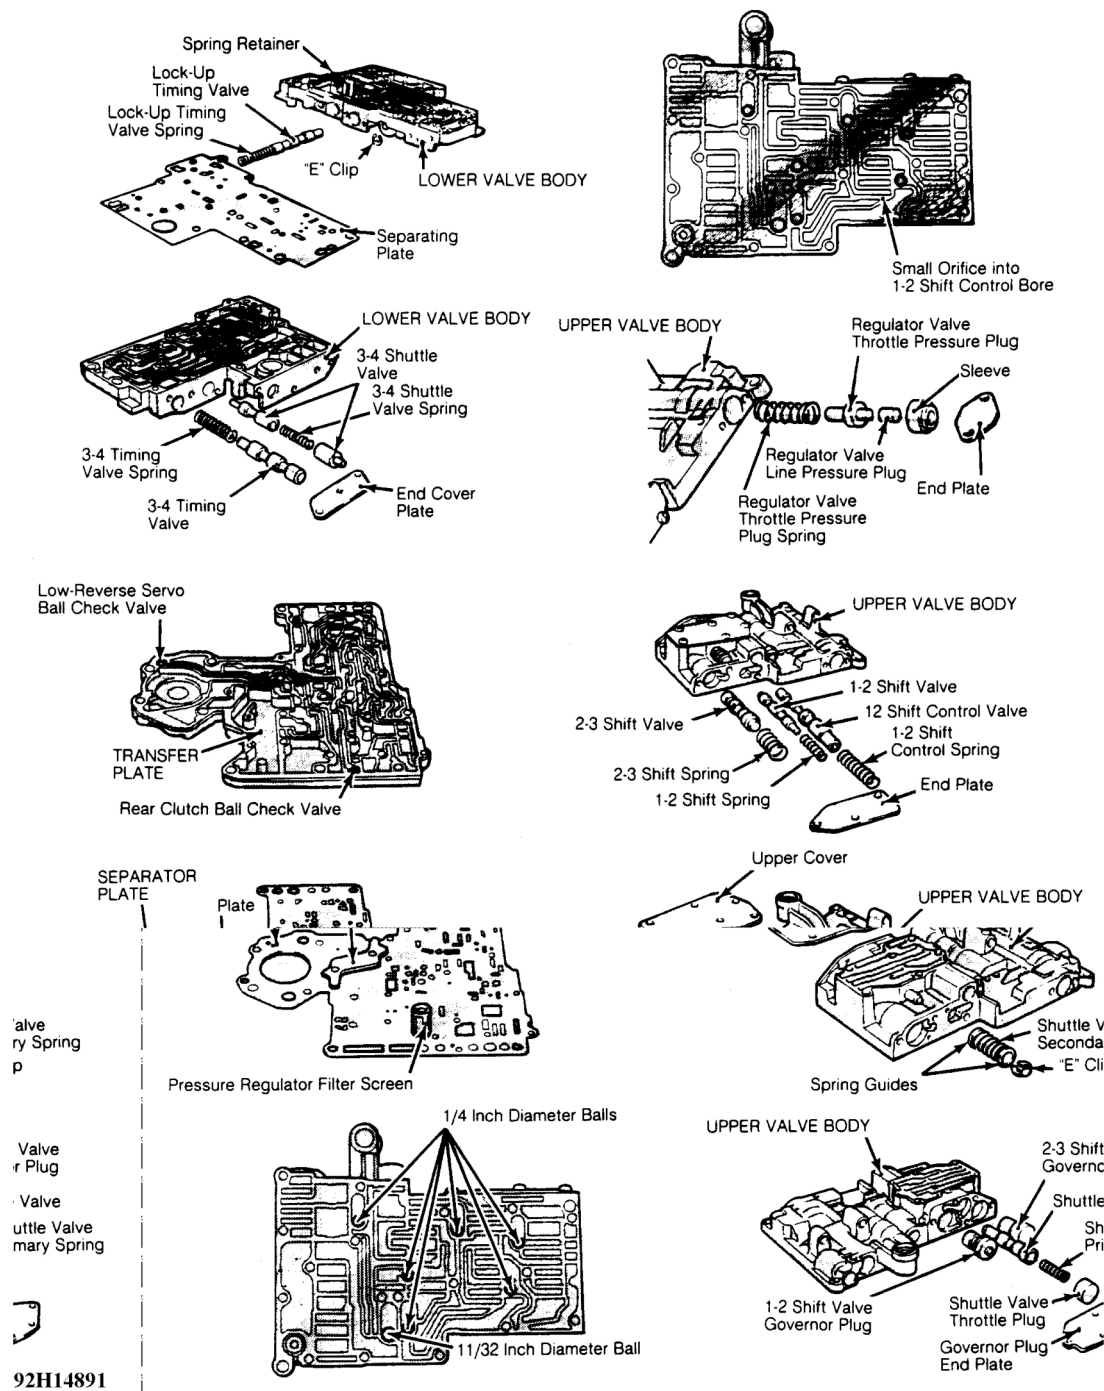

Fig. 16: Exploded View of Valve Body Components
Remove 3-4 shuttle valve "E" clip. See **Fig. 16**.
4. Remove end cover plate and take out 3-4 timing valve and spring and 3-4 shuttle valve and spring. Invert upper valve body and remove transfer plate. Remove 7 check balls from upper valve body. Remove end plate, regulator valve line pressure plug, sleeve, regulator valve throttle pressure plug and spring. See **Fig. 16**.
5. Remove end plate, 2-3 shift valve and spring, 1-2 shift valve and spring, and 1-2 shift control valve and spring. Remove shuttle valve "E" clip, shuttle valve secondary spring and spring guides (2). Remove upper cover.
7. Remove separator plate from transfer plate. Remove pressure regulator filter screen and plate from the separator plate. Remove 2 check balls from transfer plate. See **Fig. 16**.